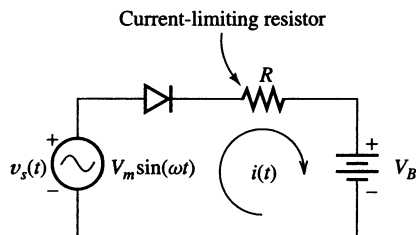

Figure P3.24 Half-wave battery charger.
3.24. Consider the battery-charging circuit of Figure P3.24 with $V_m = 20$ V, $R = 10 \Omega$, and $V_B = 14$ V. Find the peak current, assuming an ideal diode. Also, find the percentage of each cycle for which the diode is in the on state. Sketch $v_s(t)$ and $i(t)$ to scale against time.